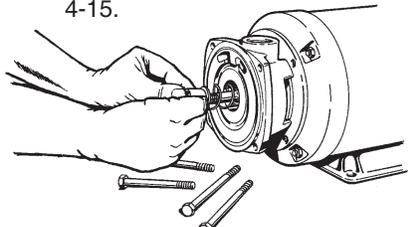

Figure 4-15
h. Align the keyway slot in the hub assembly with the key in the motor shaft, refer to Figure 4-15.